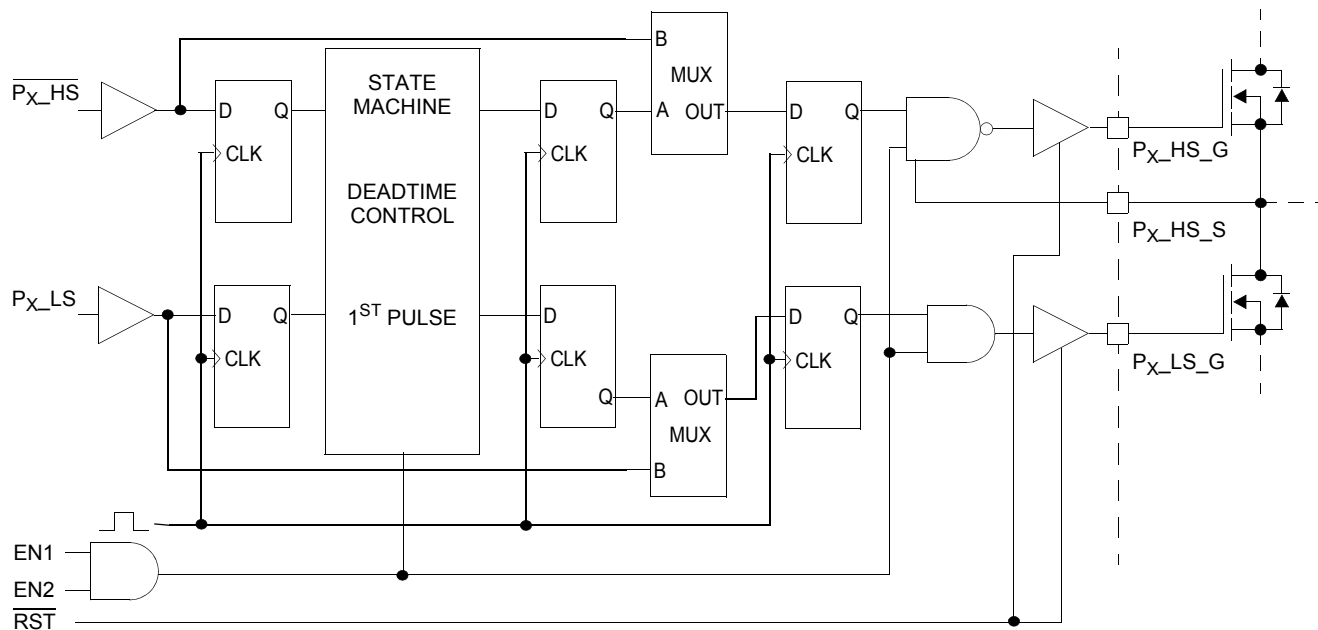

Figure 6. Deadtime Control Delays
42. These delays include all logic delays except deadtime. All internal logic is synchronous with the internal clock. The total delay includes one clock period for state machine decision block, an additional clock period for FULLON mux logic, input synchronization time and output driver propagation delay. Subtract one clock period for operation in FULLON mode which bypasses the state machine decision block. Synchronization time accounts for up to one clock period of variation. See Figure 6.